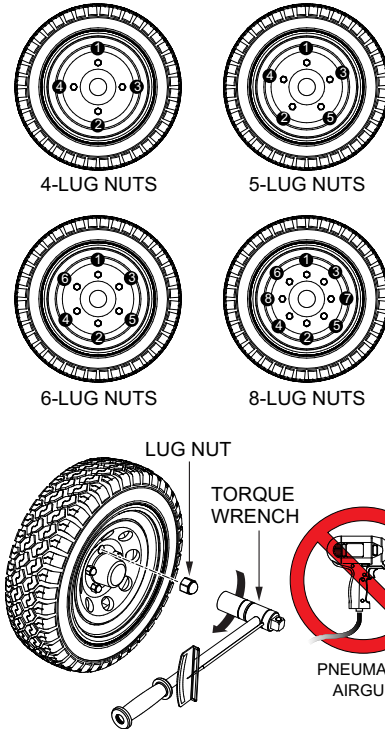

Figure 29. Lug Nut Torque Sequence
2. Torque all lug nuts (Figure 29) in sequence. **DO NOT** torque the wheel lug nuts all the way down. Tighten each lug nut in 3 separate passes as defined by Table 6.